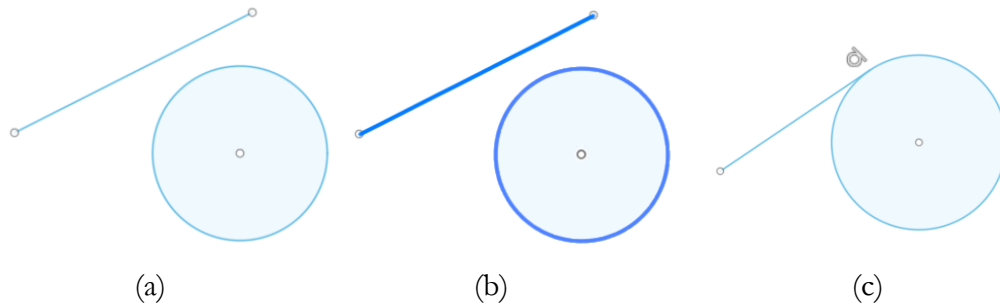

Figure 2.123
A sketch consisting of a line and a circle is shown in Figure 2.123(a). After running the Tangent command, the straight line and then the circle should be selected with the mouse (Figure
2.123(b)). The two objects are automatically made tangent to each other, and a symbol indicating the presence of a tangent relationship between them appears on the sketch (Figure 2.123(c)).